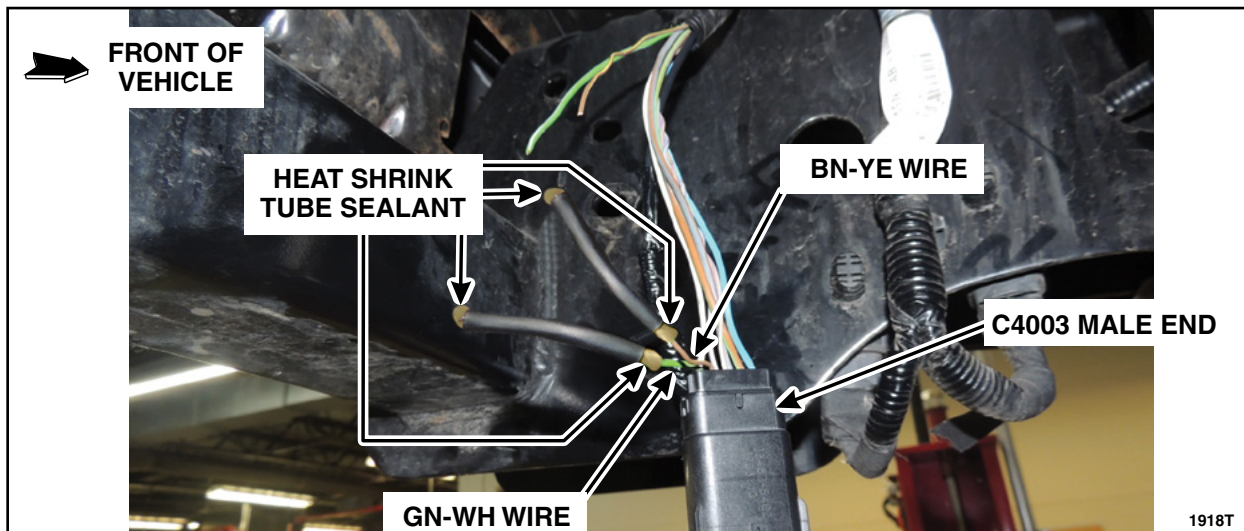

FIGURE 17
20. Install a piece of dual wall heat shrink tube on the GN-WH and BN-YE wires making sure the end of the wire is located in the middle of the tube. Evenly heat up the heat shrink tube until the heat shrink tube sealant bubbles out of both ends. See Figure 17.